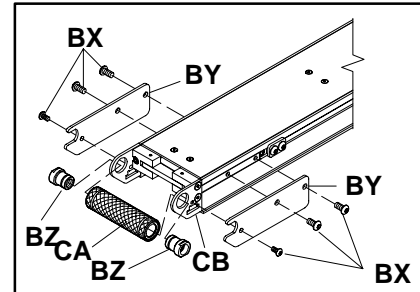
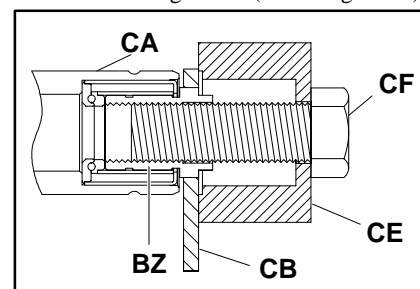

Figure 22: Tail Pulley Replacement Detail (Replacement Pulley is Knurled, as shown)
Figure 24
Remove the tail cover plate screws (BX of Figure 22) and tail cover plates (BY) on both sides of the conveyor.
Position the bearing anvil/sleeve removal tool (CE of Figure 24), part number ★25-09 over the retaining sleeve (BZ of Figure 22).
Insert the threaded bolt (CF of Figure 24), part number ☆906-278 through the bearing anvil/sleeve removal tool (CE) and into the retaining sleeve (BZ).
Refer to Figure 22 and proceed as follows:
Insert pulley (CA of Figure 22) between the tail pulley plates (CB).
Secure the tail cover plates (BY of Figure 22) to the conveyor with tail cover plate screws (BX).